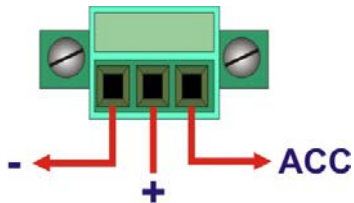

Figure 3-21: 3-pin Terminal Block Pinout Location
- CN Pinouts:** See Figure 3-21